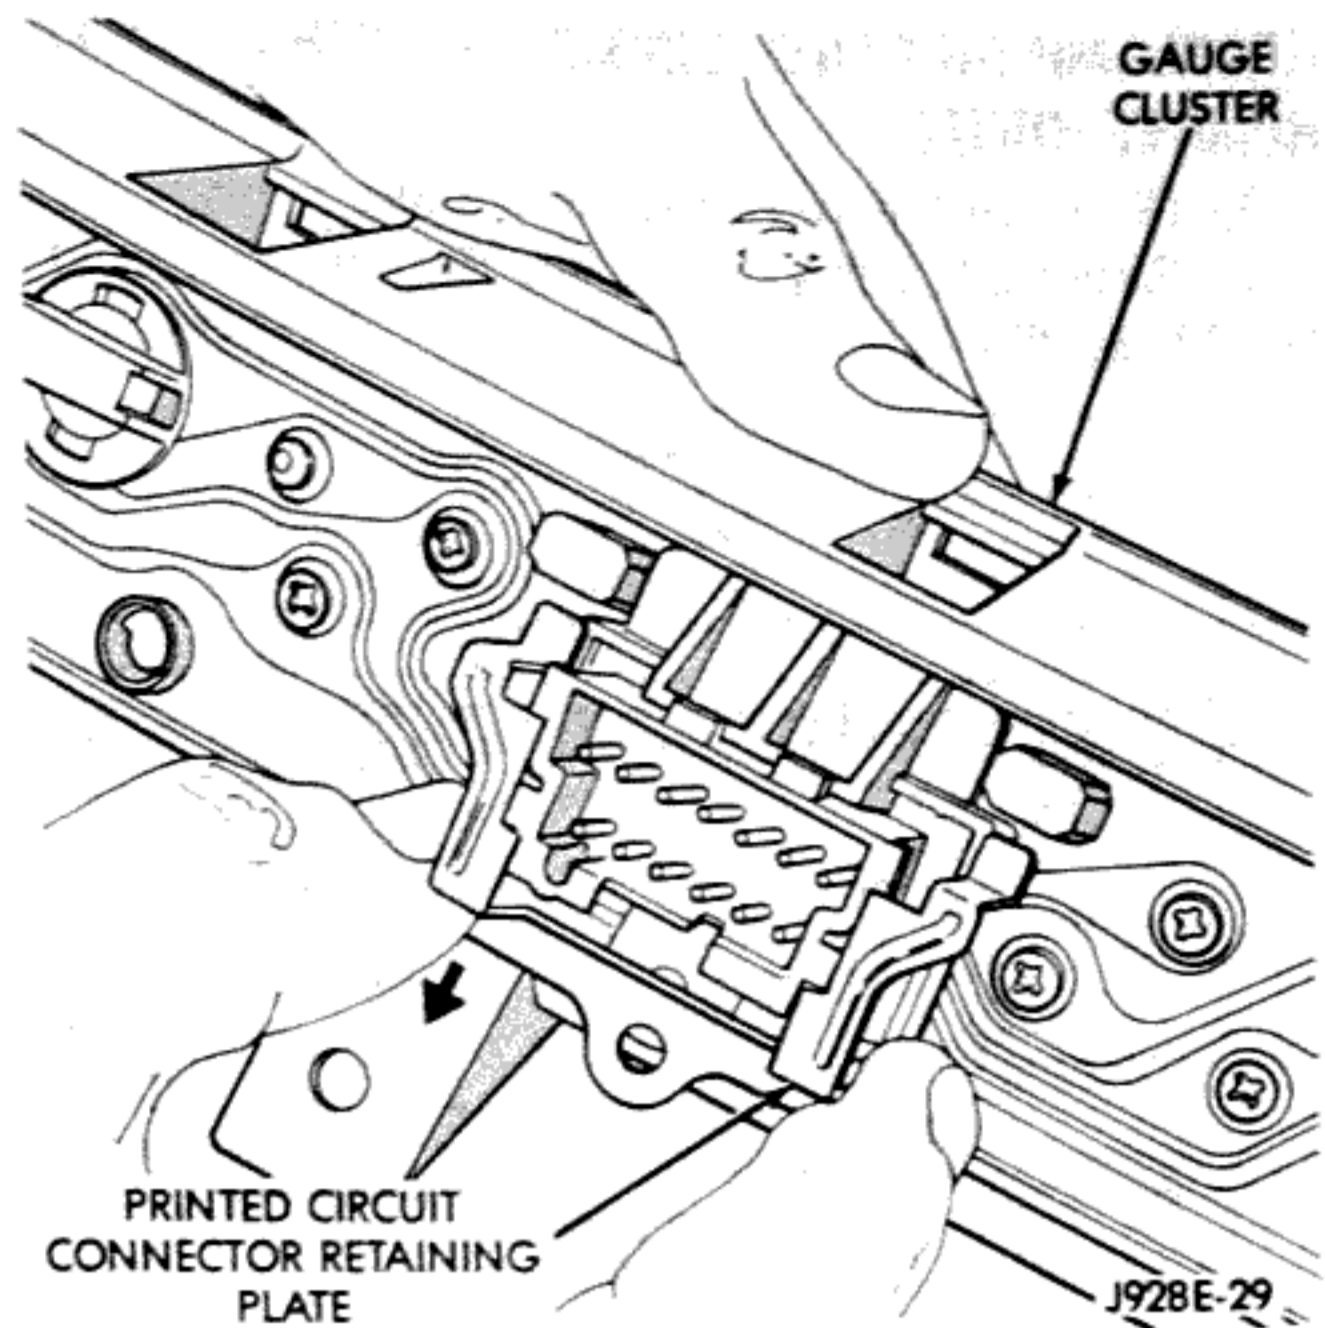
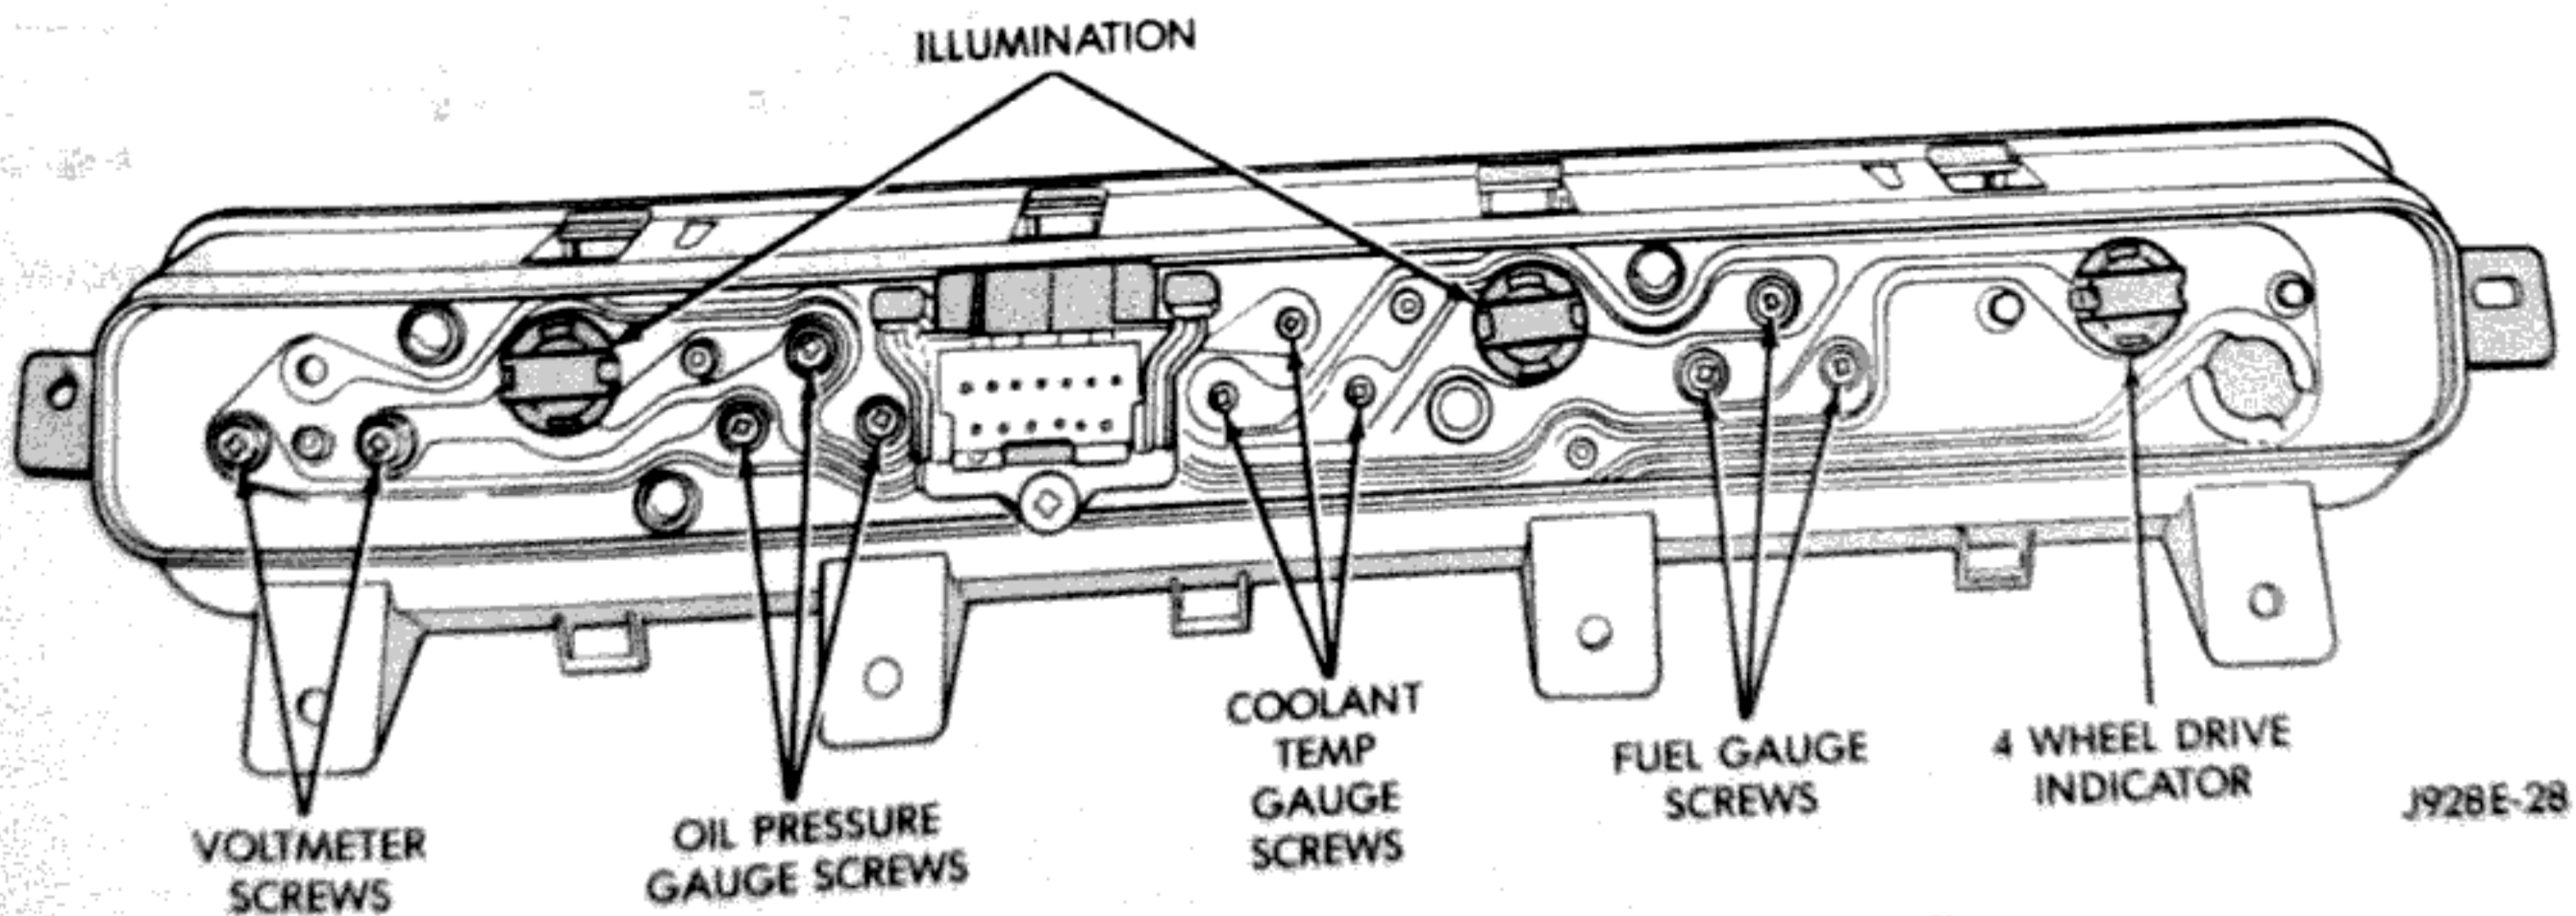

Fig. 21 Cluster Connector Retaining Plate
Fig. 20 Gauge Package Printed Circuit Remove/Install
- (1) Remove gauge package cluster as described in Cluster Remove/Install.
- (2) Remove gauge package lens and mask as described in Gauges Remove/Install.
- (3) Remove all gauge attaching screws from rear of cluster housing (Fig. 20).
- (4) Remove screw holding the cluster connector retaining plate to the housing.
- (5) To remove plate, slide it toward the bottom of the housing (Fig. 21).